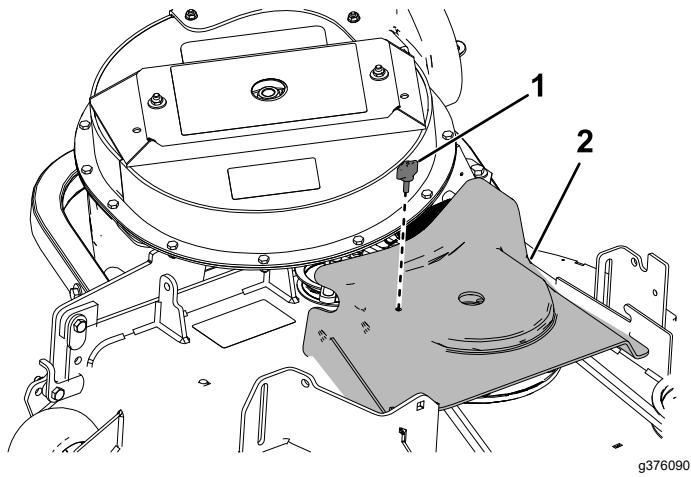

Figure 37
5. Install the blower-belt cover over the blower belt and secure the blower-belt cover with the belt knob (Figure 37).